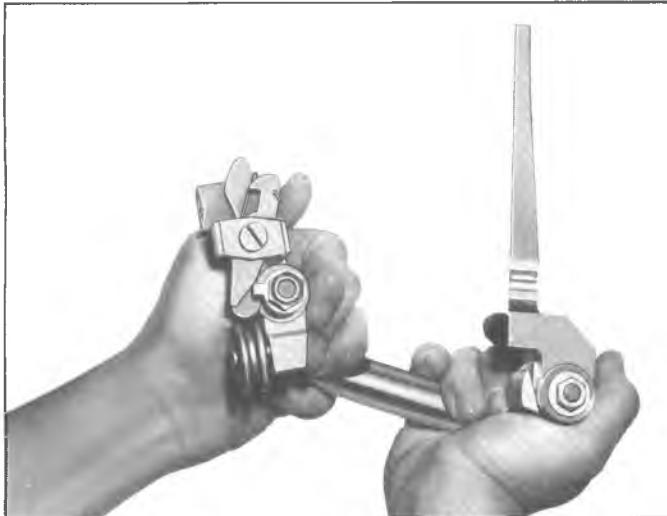

Fig. 25G—Checking Assembly of Hinge
7. When holding hinge assembly as in figure 25G, the lower latch must engage cam.